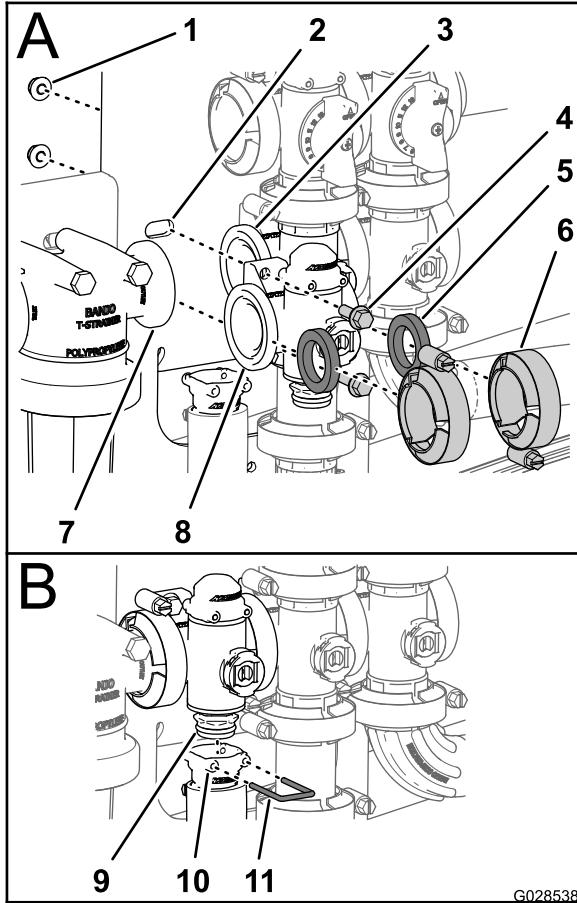

Figure 96
1. Align a 1 gasket between the flanges of the rate control valve manifold and the pressure filter head (A of Figure 96).
4. Assemble the rate control valve manifold, gasket, and agitation valve manifold with a clamp tightened hand tight (A of Figure 96).
5. Assemble the rate control valve to the valve mount with the 2 flanged-head bolts and 2 flanged locknuts (A of Figure 96) that you removed in step 3 of Removing the Rate Control Manifold Valve \(page 68\) and torque the nut and bolt to 1017 to 1243 N-cm (90 to 110 in-lb).
6. Assemble the outlet fitting onto the lower endcap fitting of the manifold valve (B of Figure 96).
7. Secure the endcap fitting to the outlet fitting by inserting a retainer into the socket of the outlet fitting (B of Figure 96).
2. Assemble the rate control valve manifold, gasket, and pressure filter head with a clamp tightened hand tight (A of Figure 96).
3. Align a 1 gasket between the flanges of the rate control valve and the agitation valve manifold (A of Figure 96)